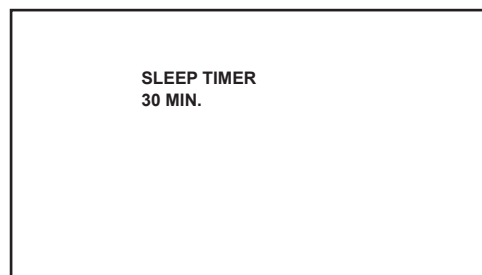
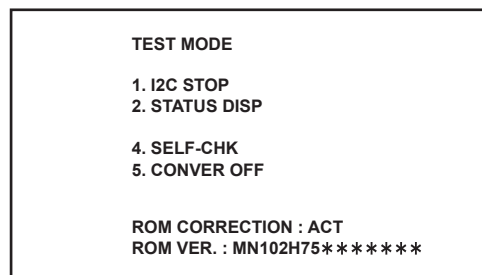

Fig.1
Fig.2
- (1) Set the < SLEEP TIMER 30 MIN. > with [SLEEP TIMER] key. (Fig.1)
- (2) During the < SLEEP TIMER 30 MIN. > display, press [DISPLAY] key and [VIDEO STATUS] key at the same time.
- (3) Then < TEST MODE > screen is displayed. (Fig.2)